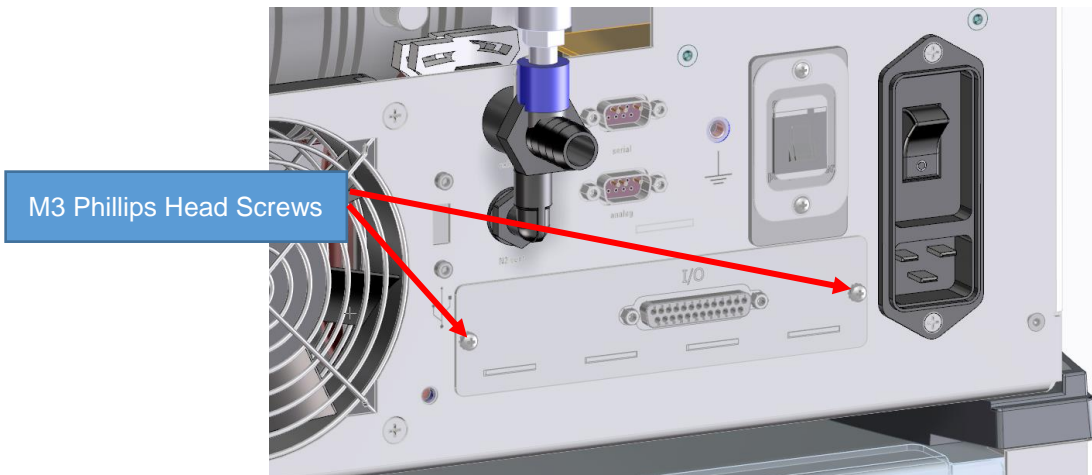

Figure 3: I/O Assembly with Screws
- Remove the two I/O board Phillips head screws w/lock washers and remove the I/O board that is installed in the unit (“Figure 3: I/O Assembly with Screws”).
9. Reinstall the two I/O board Philips head screws w/lock washers (“Figure 3: I/O Assembly with Screws”).